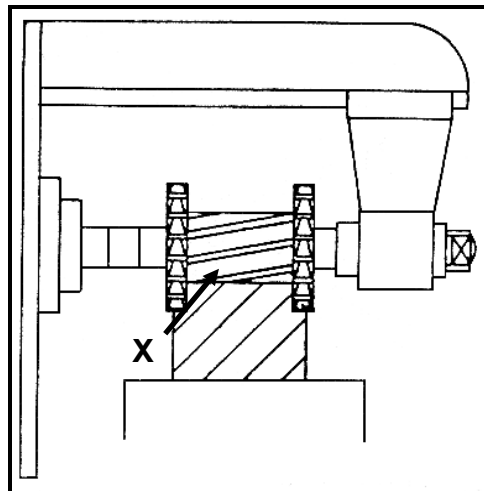

FIGURE 4.2
- 4.2 Identify the milling process in FIGURE 4.2 below.